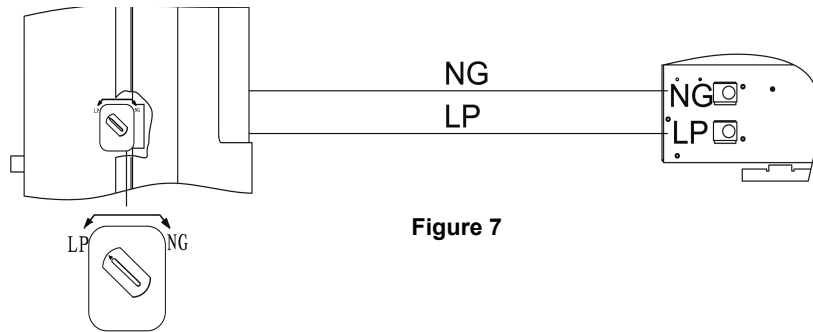

Figure 7
1. Remove top screw from cover plate, See Figure 7, and rotate to expose gas selection valve.
1. Remove top screw from cover plate, see Figure 7, and rotate to expose gas selection valve.